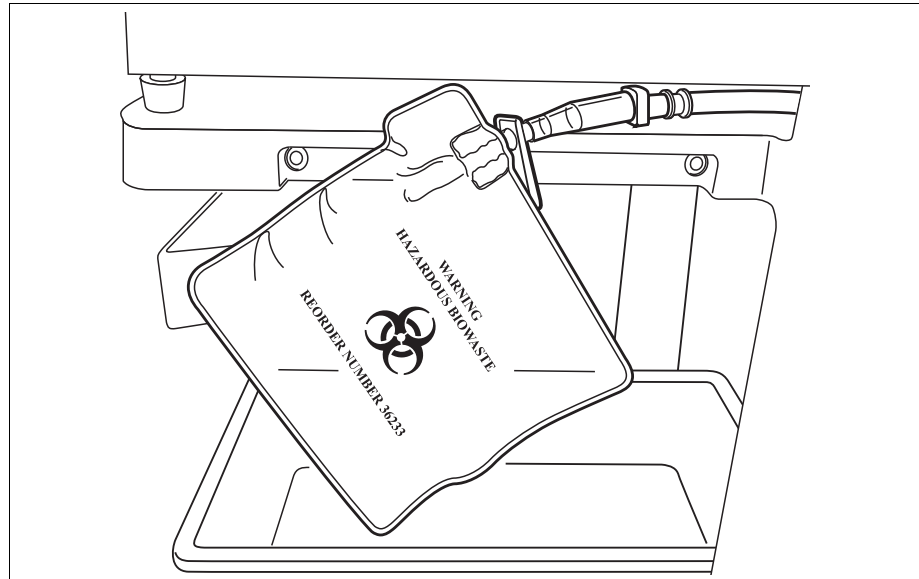

Figure 34, Allowing the biohazard waste bag to hang out of the tray
3. Ensure that there are no kinks or twists in the tubing and allow the bag and its tubing to hang from the drain tube (See Figure 34).